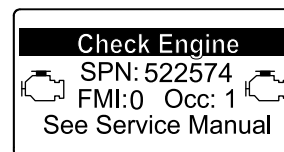

Figure 60
- Engine warning SPN 522574, FMI: 0 (Figure 60)